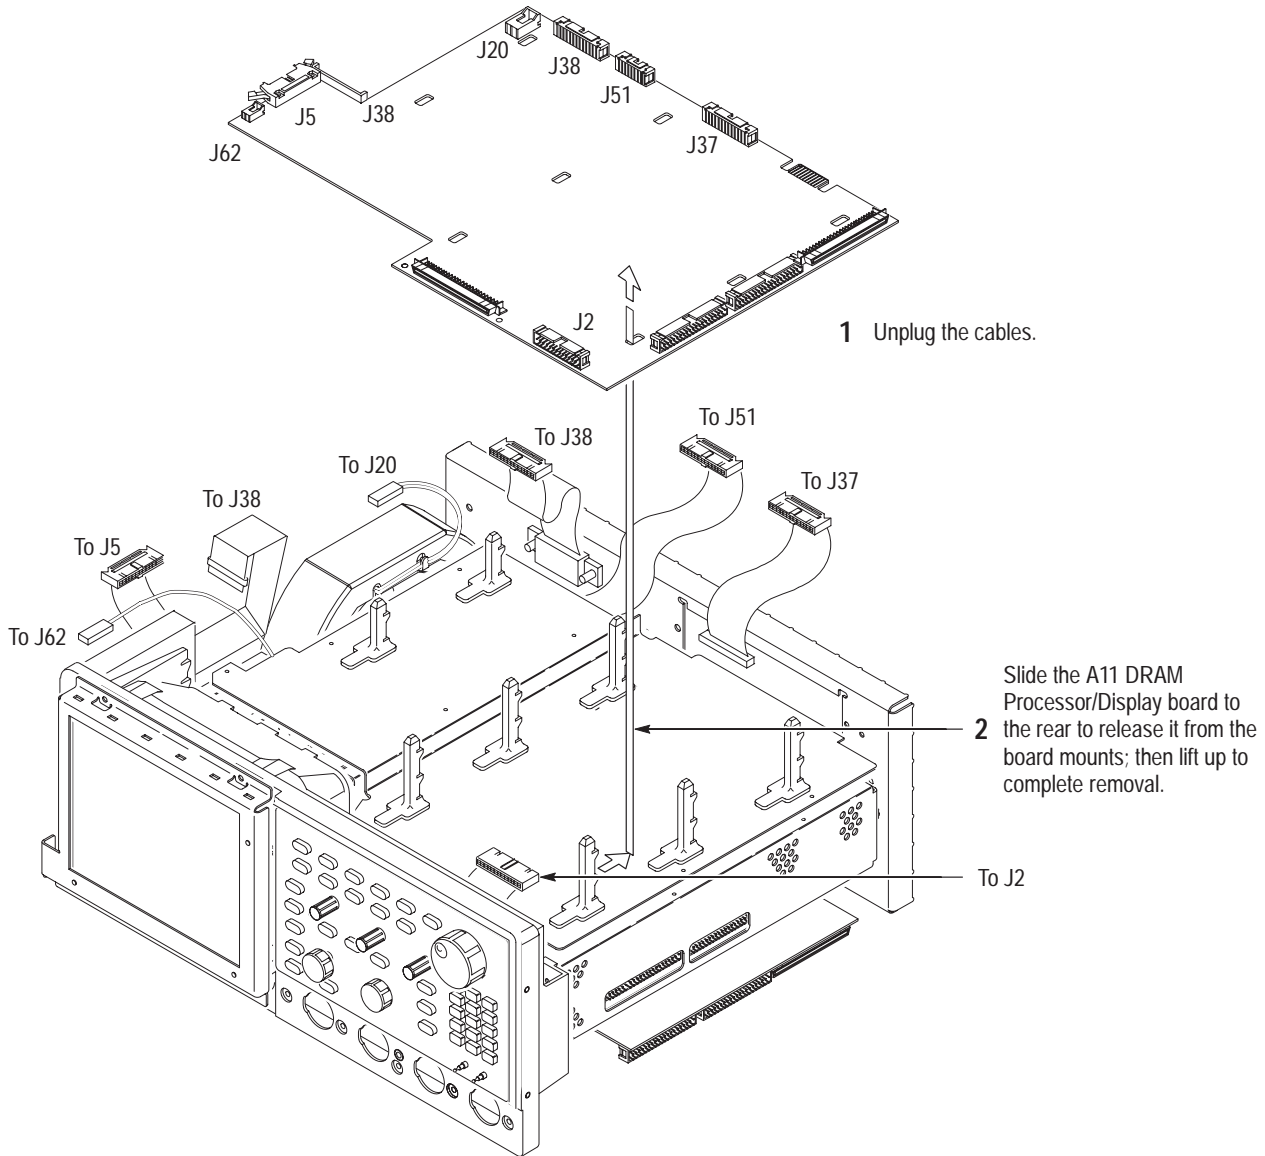

Figure 6–16: A11 Processor/display removal
4. *Remove the processor/display board:* Use Figure 6–16 as a guide while doing the following substeps: